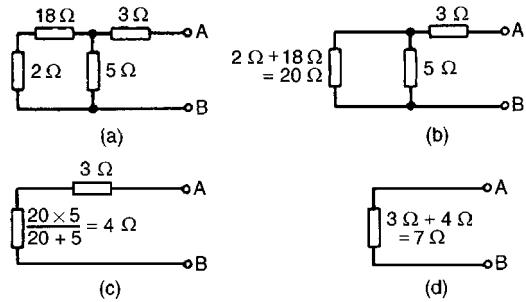

Figure 13.32
- (iv) The resistance ‘looking-in’ at terminals AB in Fig. 13.32(a) is obtained by reducing the circuit in stages as shown in Figures 13.32(b) to (d). Hence the equivalent resistance across AB is 7Ω .